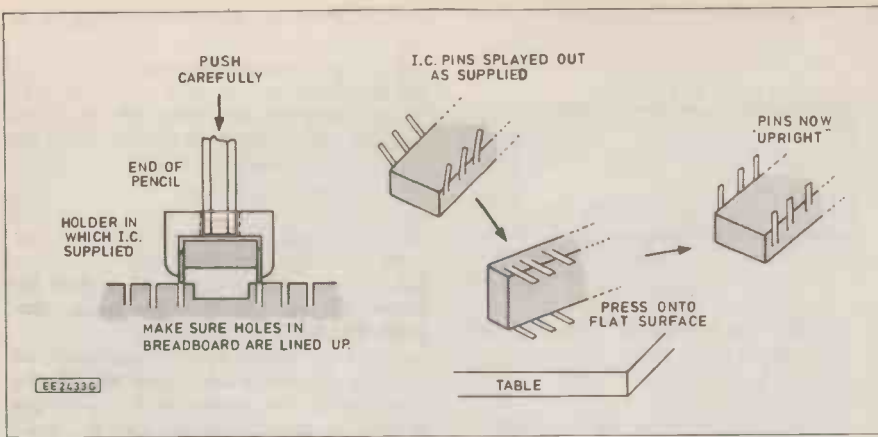

Fig.4.5. Handling integrated circuits
**T** Yes, there are insertion and extractor tools which can help a lot if you have to handle many chips. You can use a pencil to push a chip into position from one of the plastic protectors in which they're sometimes supplied. You may also find it helpful, especially with large sized chips, to bend the row of pins along each side so as to get them more upright. Do this by pressing it gently, edgewise on a flat surface. The sketches may help (Fig.4.5).